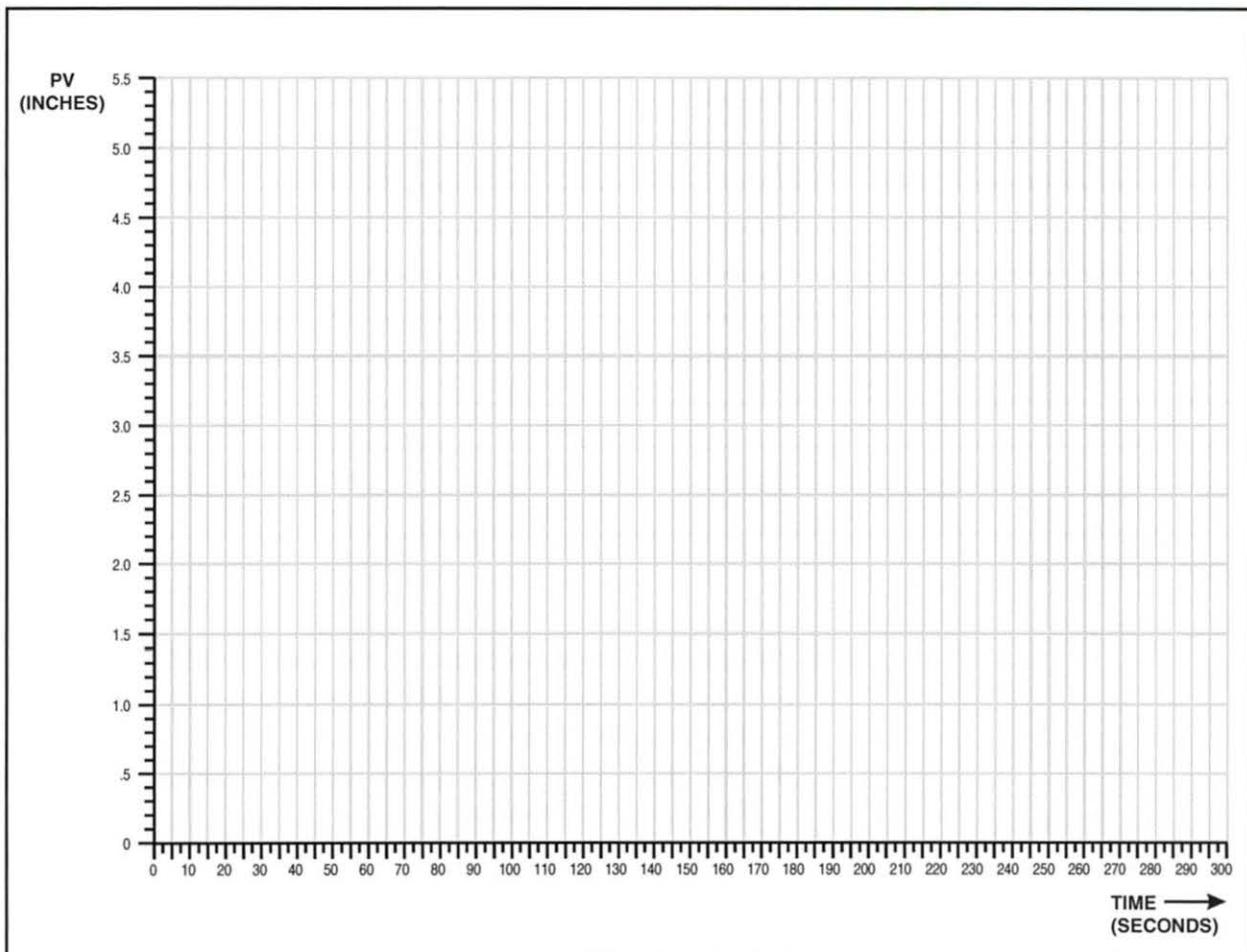

Figure 80. Graph of PV vs. Time
- A. Create a graph of PV vs. time, similar to figure 80, on a piece of graph paper.
You will use this to plot the response of the system with a derivative setting of 1 minute. You may need to use a different scale than in the previous skills, as shown in figure 80, to cover the entire range of values.